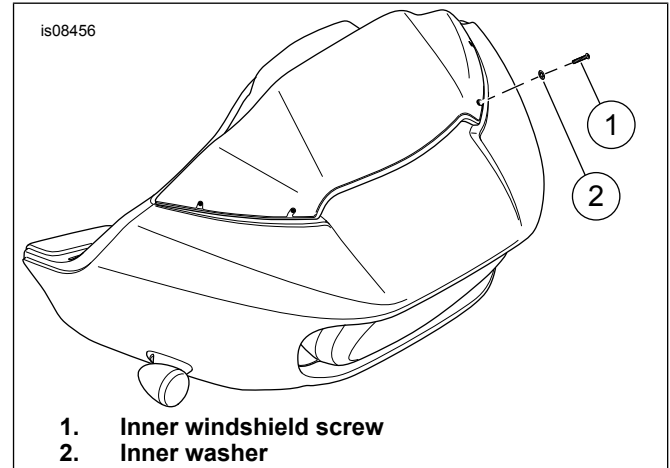

Figure 1. Windshield Attaching Screws
1. See Figure 1. Remove the two inner screws and washers fastening the windshield to the outer fairing. Discard the screws and washers.